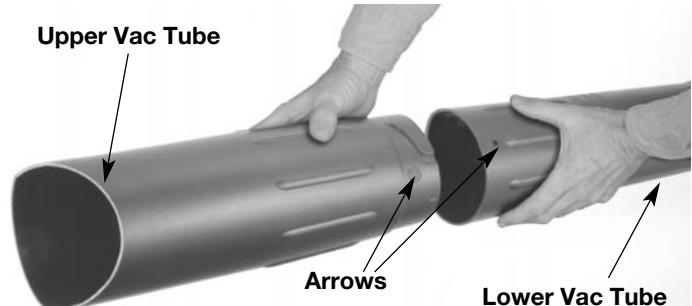

Fig.2
- Align the small arrow on the lower vacuum tube with the arrow on the upper vacuum tube (Fig. 2).